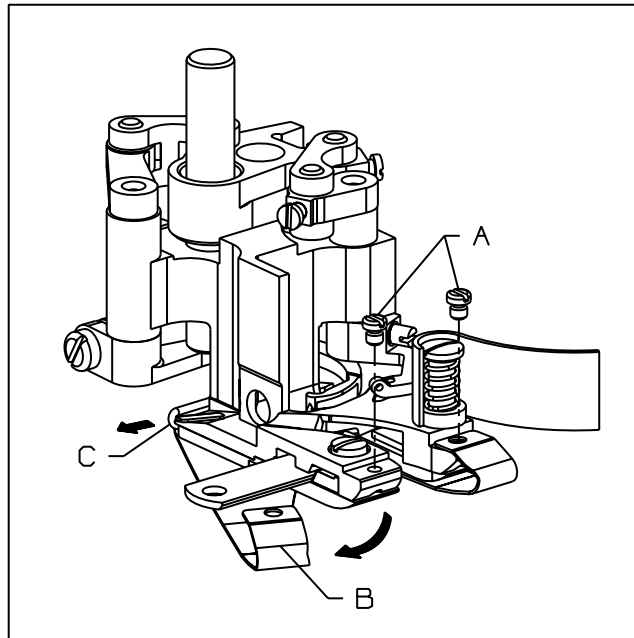

FIG. 39
1. Remove screws (A, Fig. 39).
2. Remove the presser foot shoes (B, Fig. 39) from the presser foot.
3. Remove each shoe (B, Fig. 39) from the shoe holder (C, Fig. 39).
1. Reset each presser foot shoe (B, Fig. 39) with the shoe holder (C, Fig. 39).
2. Reset the shoes (B, Fig. 39) parallel to each other on the presser foot.
3. Tighten the screws (A, Fig. 39) securely.